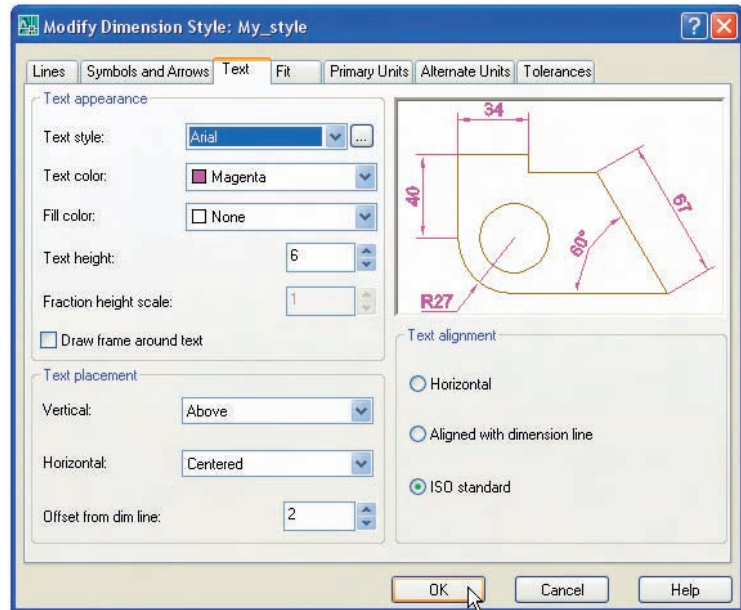

Fig. 4.13 Setting text style and height in the **Text** sub-dialog
5. In the **Modify Dimension Style** sub-dialog which appears (Fig. 4.13), *click* the **Text** tab at the top of the dialog. Then *click* the arrow to the right of the **Text style** field and select **Arial** from the popup list. *Enter* a height of **6** in the **Text height** field and **2** in the **Offset from dim line** field.